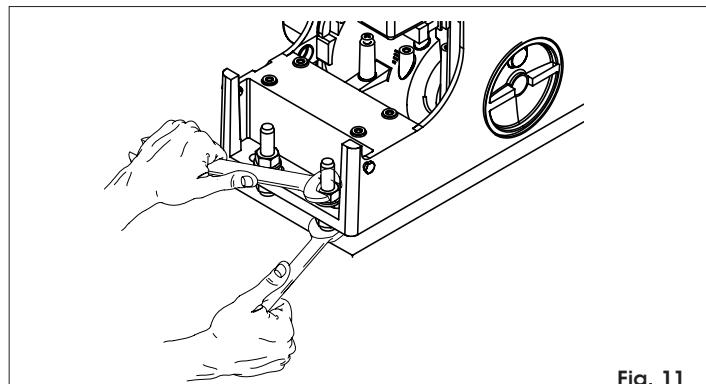

Fig. 11
- Secure the gearmotor to the foundation plate, tightening the nuts as in Fig.11.